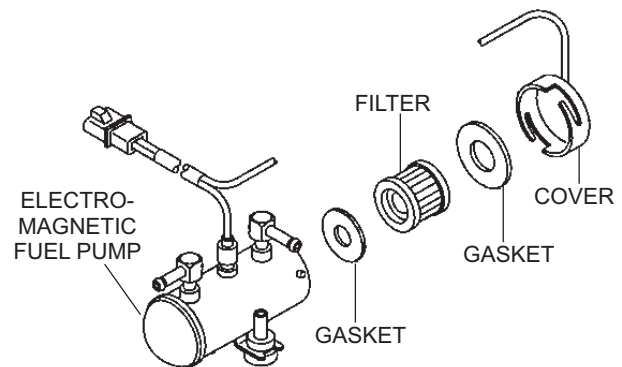

Figure 66. Electromagnetic Fuel Pump
The filter inside the **electromagnetic fuel pump** (Figure 66) is either a paper type or steel mesh type depending on the fuel pump type. Clean or replace the fuel pump filter as follows:
- Remove the **filter** and **gaskets** (Figure 66) from the fuel pump housing.